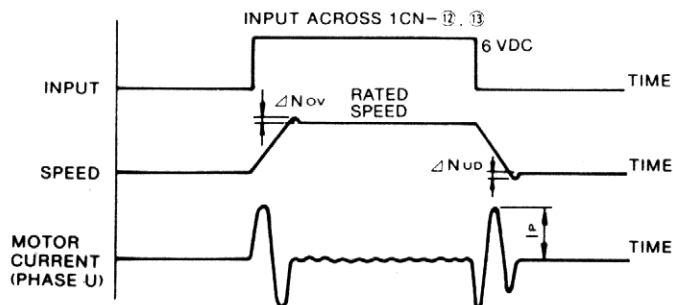

Fig. 12.3 Start-Stop Characteristics
- (3) Start-stop characteristics (Fig. 12.3)